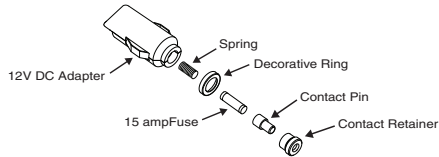

Figure 1. Fuse Replacement
The CPS480PAU inverter contains a fuse inside in the cigar plug (see Figure 1) to protect the unit against overloading. If the inverter draws more than 150 watts, the internal fuse may open to protect the inverter, vehicle battery, and the connected equipment. To replace the fuse, please follow the instructions below:
5. Ensure all pieces shown in Figure 1 are installed in the correct sequence.